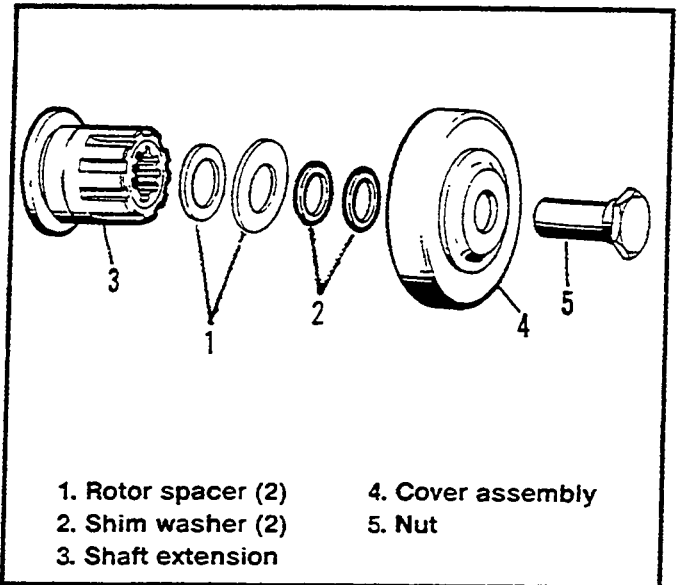

Figure 2. Components To Be Installed For Test
5. See Figure 2. Install the rotor spacers (1), the sprocket shaft spacers (2) (selected in step 4) and the spacer(s) installed at the factory) the extension shaft (3), cover assembly (4) and nut (5). Do not install the stator, rotor, compensating sprocket or the primary chain, adjuster or clutch. Tighten the compensating sprocket nut (5) to 80 - 100 ft-lbs of torque.